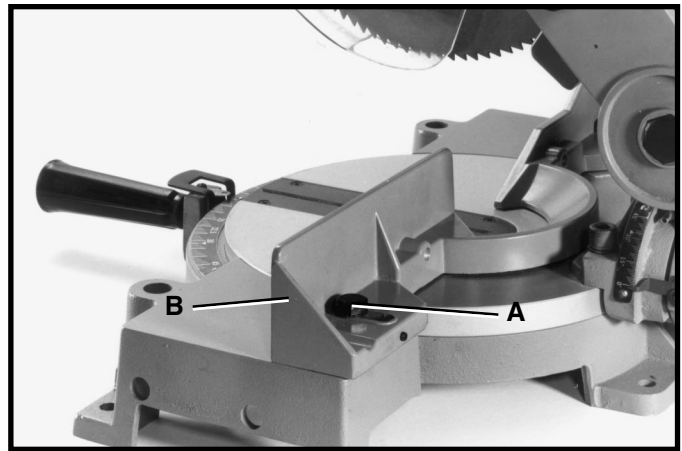
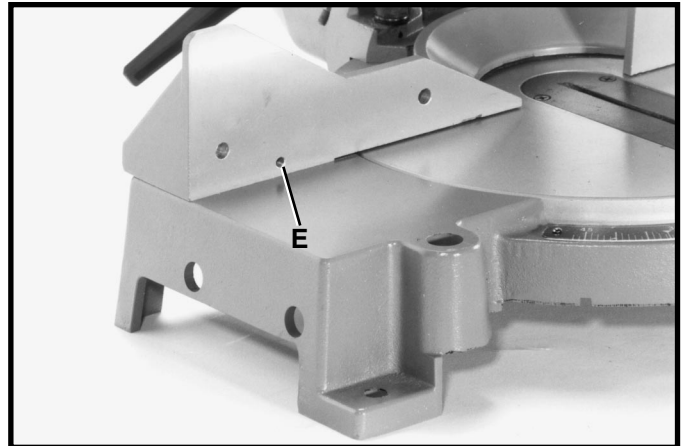

Fig. 28
Fig. 29
7. Loosen the two fence locking screws, one of which is shown at (A) Fig. 28, and move the fence (B) all the way to the rear position, as shown. Then tighten the two fence locking screws (A).
9. If an adjustment is necessary, loosen the two fence locking screws (A) Fig. 28, and turn the two adjusting screws, one of which is shown at (E) Fig. 29, until you are sure fence is at 90 degrees to the blade when the fence is all the way to the rear. Then tighten the two fence locking screws (A) Fig. 28.